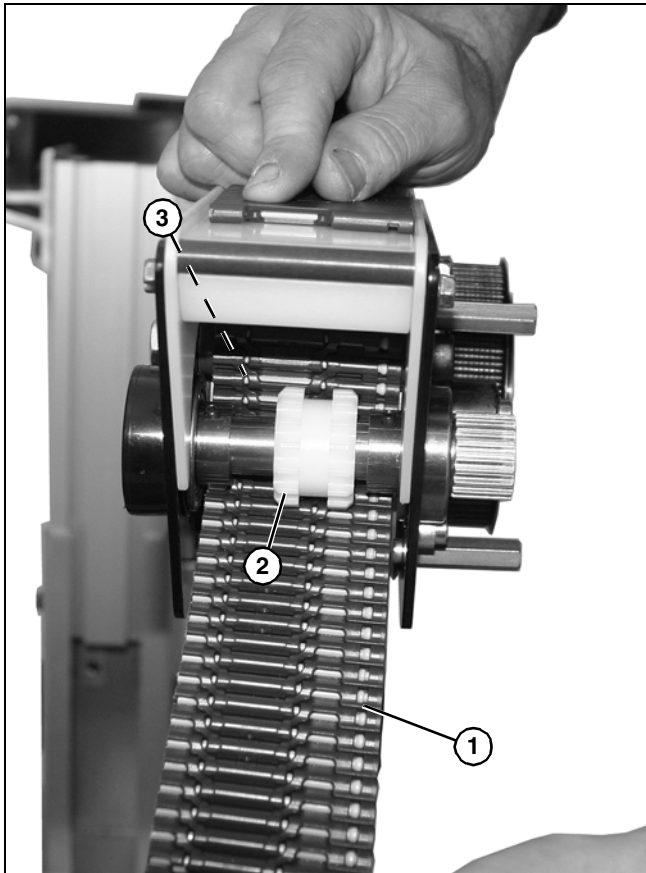

Figure 106
5. Guide belt (Figure 106, item 1) through wear bar assembly with belt routing under gear (Figure 106, item 2) and over wear tube (Figure 106, item 3).